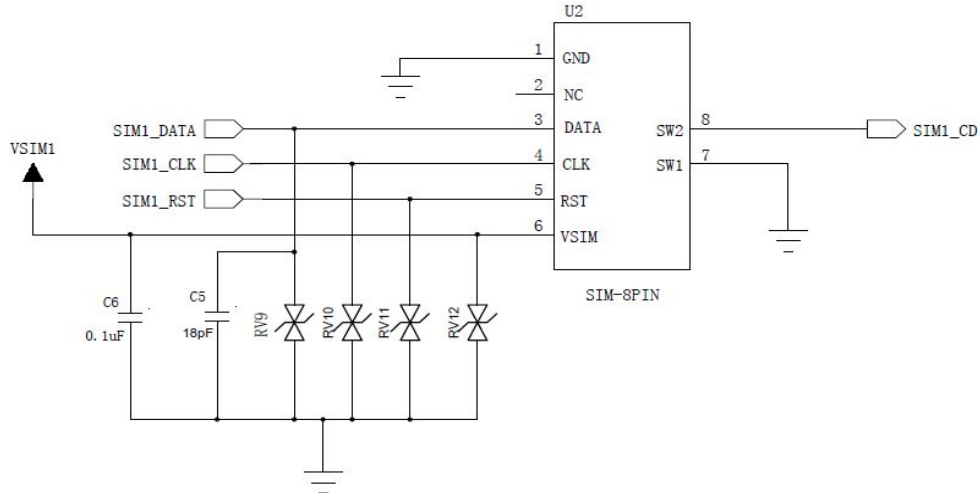

Figure 5-7 Reference Design of “Normally Closed” SIM Card Interface
- For “Normal closed” SIM card, as shown in the figure5-7, SIM1\_CD signal line is connected to U2’s Pin8 (SW2), and Pin7 (SW1) is connected to the ground. When the SIM card is not inserted, SW2 and SW1 short circuit, SW2 will be at low level. When the SIM card is inserted, SW2 and SW1 will be disconnected, SIM1\_CD level will be pulled up.